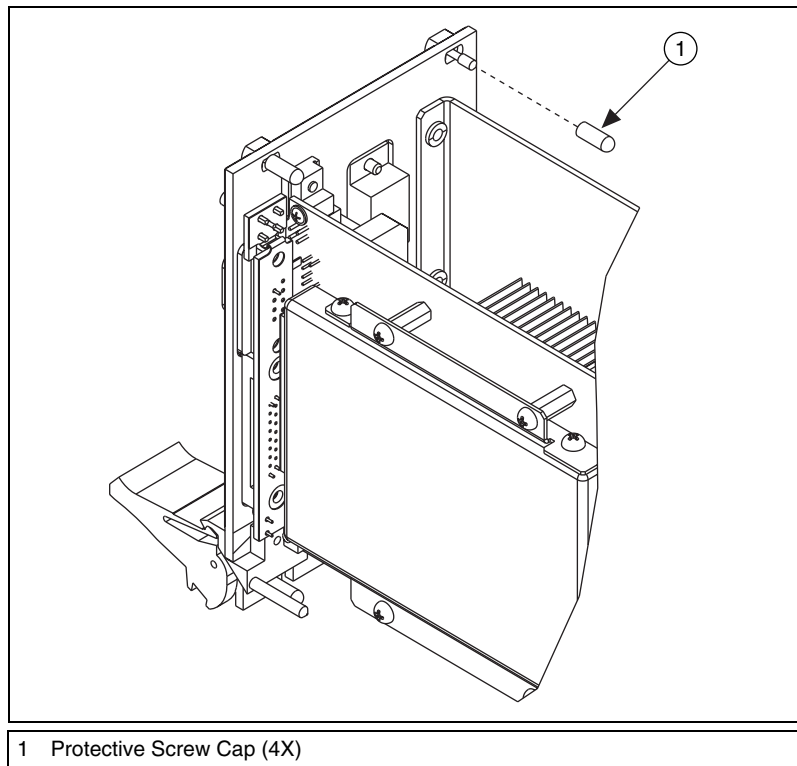

Figure 1. Removing Protective Screw Caps
4. Remove the protective plastic covers from the four bracket-retaining screws as shown in Figure 1.